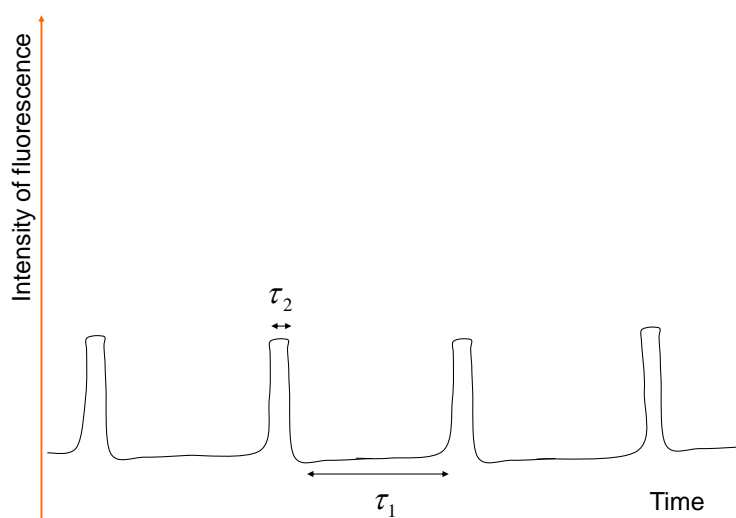

Fig. 2. Time dependence of intensity of fluorescence coming from a single cluster
The reaction product B is a fluorescent molecule while the reagent A is not. Continuous laser light producing fluorescence was focused within a small surface area containing a single Au nanoparticle. The time dependence of fluorescence on the wavelength characteristic for B, adsorbed on the Au nanoparticle is shown in Fig.2.
The fluorescence of B in the solution could not be detected under the experimental conditions. The same intensity of fluorescence was observed periodically for the time intervals  $\tau_2$ . The fluorescence disappeared during the time intervals  $\tau_1$  between the peaks (see Fig.2). The researchers have performed their measurements for long periods of time and for many different single Au nanoparticles. As a result the averaged values of  $[\tau_1]$  and  $[\tau_2]$  were obtained.
3. The authors claimed that each peak in Fig. 2 corresponds to the fluorescence of a single molecule B adsorbed on Au nanoparticle. What was the main argument of the authors?